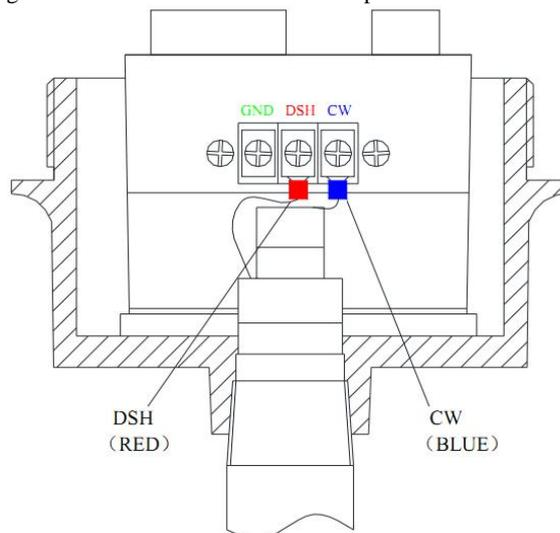

Figure 4.5 Integral System wiring
For integral mounting, the sensing element is usually pre-wired at the factory. If the system were shipped unassembled or you want to replace the cable see figure 4.5 below. All of the sensing element connections are made to the terminals on the opposite side of the power and relay connections. The shield wire (red) and the center wire (blue) are twisted, be sure the shield wire connects to the electronic unit shield terminal (DSH), the center wire connects to the center terminal (CW). Since a metal housing is used the electronic unit ground does not have to be connected. At the probe end, connect the Center wire (blue) to the center rod of probe and the shield wire (red) to the shield of probe. See figure 4.6 system wiring. Remote wiring connections are the same as integral except the ground wire is connected at both the probe and electronic units.